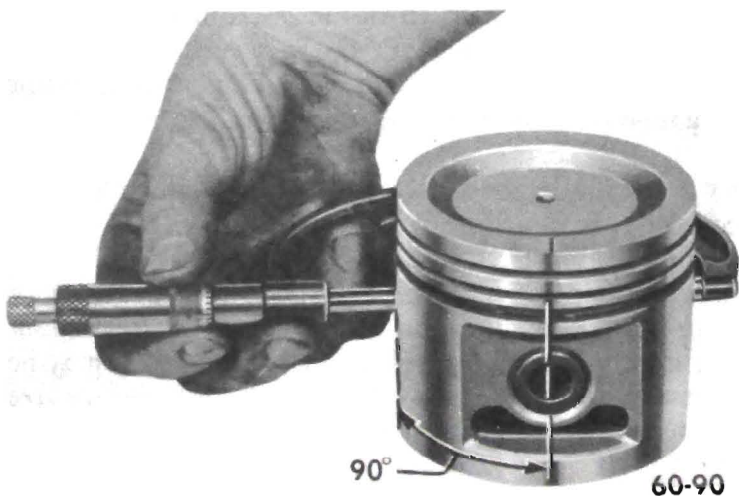

Figure 60-39 - Measuring Piston
The pistons are cam ground, which means that the diameter at a right angle to the piston pin is greater than the diameter parallel to the piston pin. When a piston is checked for size, it must be measured with micrometers applied to the skirt at points 90 degrees to the piston pin. See Figure 60-39. The piston should be measured (for fitting purposes) 1/4" below the bottom of the oil ring groove.
Before the honing or reboring operation is started, measure all new pistons with micrometer contacting at points exactly 90 degrees to piston pin (Figure 60-39) then select the smallest piston for the first fitting. The slight variation usually found between pistons in a set may provide for correction in case the first piston is fitted too free.
3. Measure the piston to be installed. See Figure 60-39. The piston must be measured at right angles to the piston pin 1/4" below the oil ring groove. The piston must be between .0008" and .0014" (350 Cu. In.) and .0007" to .0013" (455 Cu. In.) smaller than the cylinder bore.